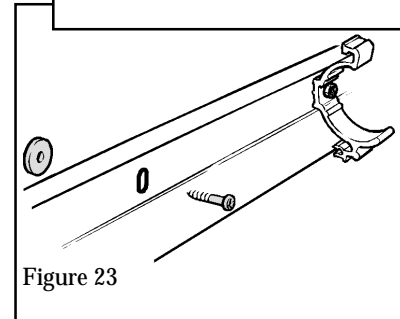

Figure 23
8.7 Fix the backing plates to the wall. The plastic spacing washers must be fitted between the backing plates and the wall. Fit using the wood screws provided (see figure.23).